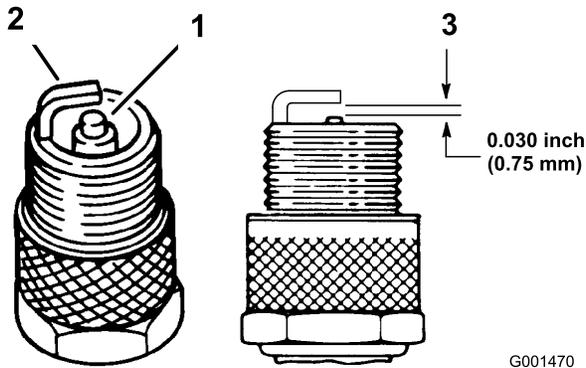

Figure 36
1. Look at the center of the spark plug (Figure 36). If you see light brown or gray on the insulator, the engine is operating properly. A black coating on the insulator usually means that the air cleaner is dirty.
3. Check the gap between the center and side electrodes (Figure 36). Bend the side electrode (Figure 36) if the gap is not correct.
3. Connect the wire to the spark plug (Figure 36).